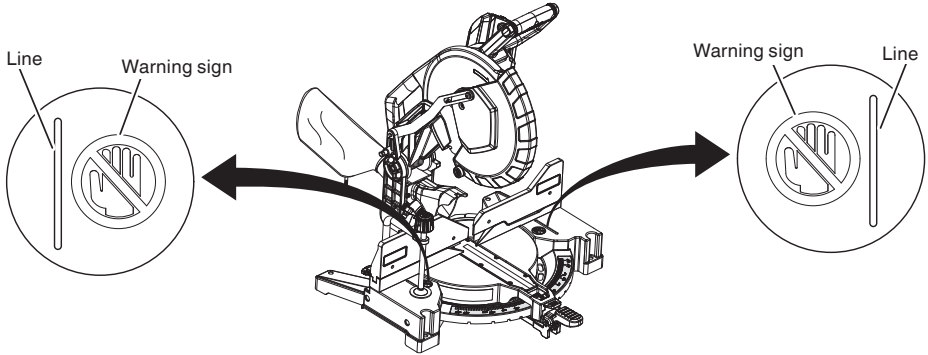

Fig. 16
- \* Never place your limbs inside of the line next to warning sign while the tool is being operated. This may cause hazardous conditions (see Fig. 16).